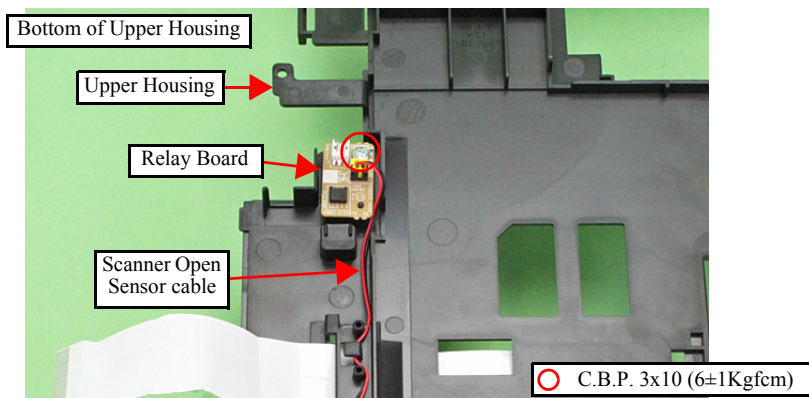

Figure 9-29. Removing the Relay Board
1. Disconnect the Scanner Open Sensor cable from the connector on the Relay Board. (See Fig. 9-29.)